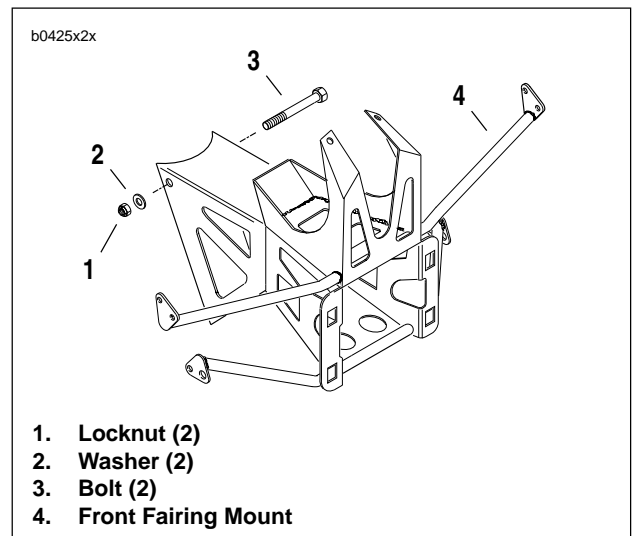
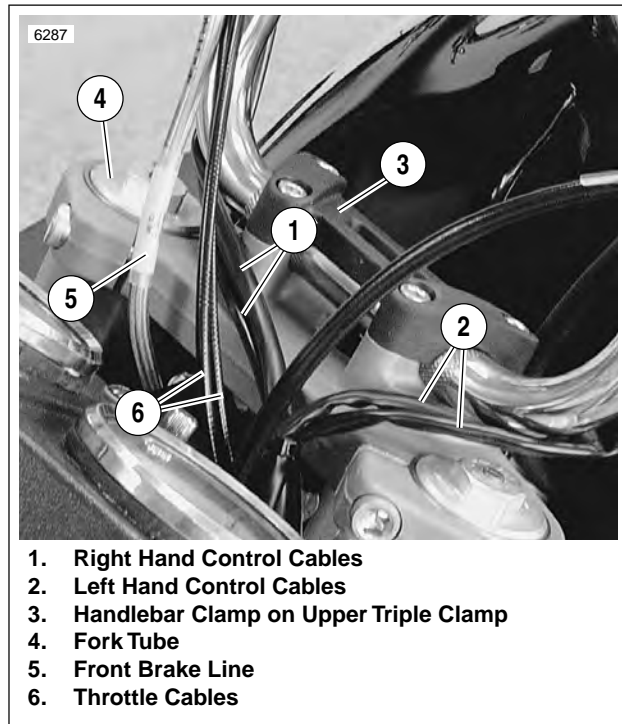

Figure 2-110. Front Fairing Mount
Figure 2-111. Front Fairing Mount Alignment
5. See Figure 2-110. Remove two locknuts (1), washers (2) and bolts (3) to detach front fairing mount from steering head.
- a. See Figure 2-111. Front brake line (5) must run on gearcase cover side of fairing mount.
- b. Throttle cables (6) and all other wiring must run on primary cover side of fairing mount.
- c. See Figure 2-110. Attach fairing mount to steering head using two locknuts (1), washers (2) and bolts (3). Tighten to 22-25 ft-lbs (30-34 Nm).